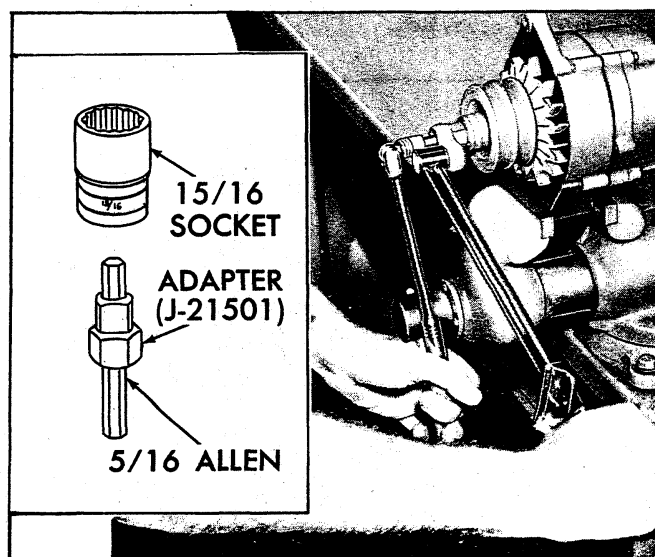

Fig. 16c—Torquing Pulley Nut
3. Reverse Steps 1 and 2 to install, use a torque wrench with a crow-foot adapter (instead of box wrench) and torque the nut to 50 ft. lbs. (fig. 16c).